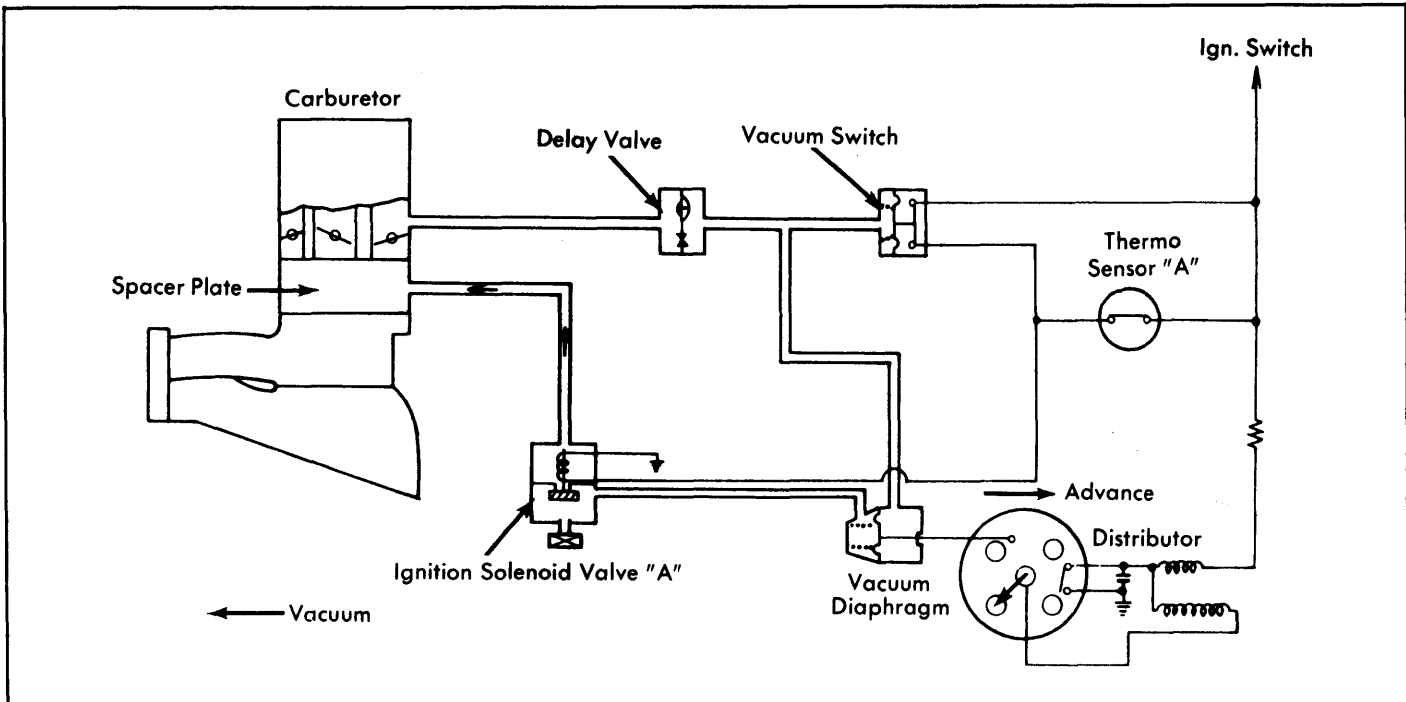

Fig. 6: 1977 Type 2 Ignition Timing Control System (California & High Altitude Auto. Trans. Equipped Models)
2) Connect vacuum gauge to hose from advance side of diaphragm. See Fig. 6. Vacuum should be present at idle. If no vacuum is present, see TROUBLE SHOOTING in this article.